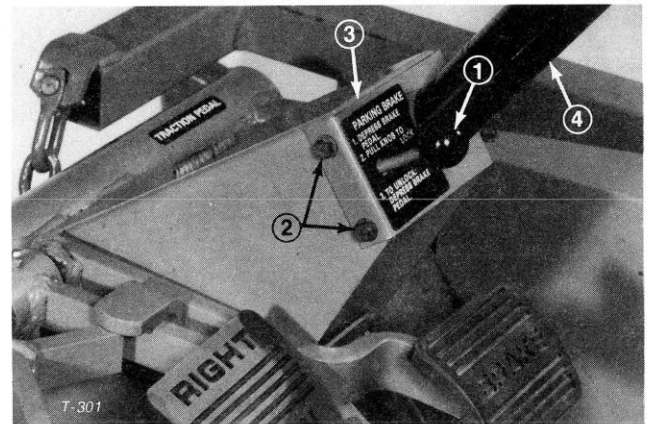

Figure 3
1. Remove parking brake latch rod knob and screws securing steering column support and slide support up on steering column (Fig. 3).